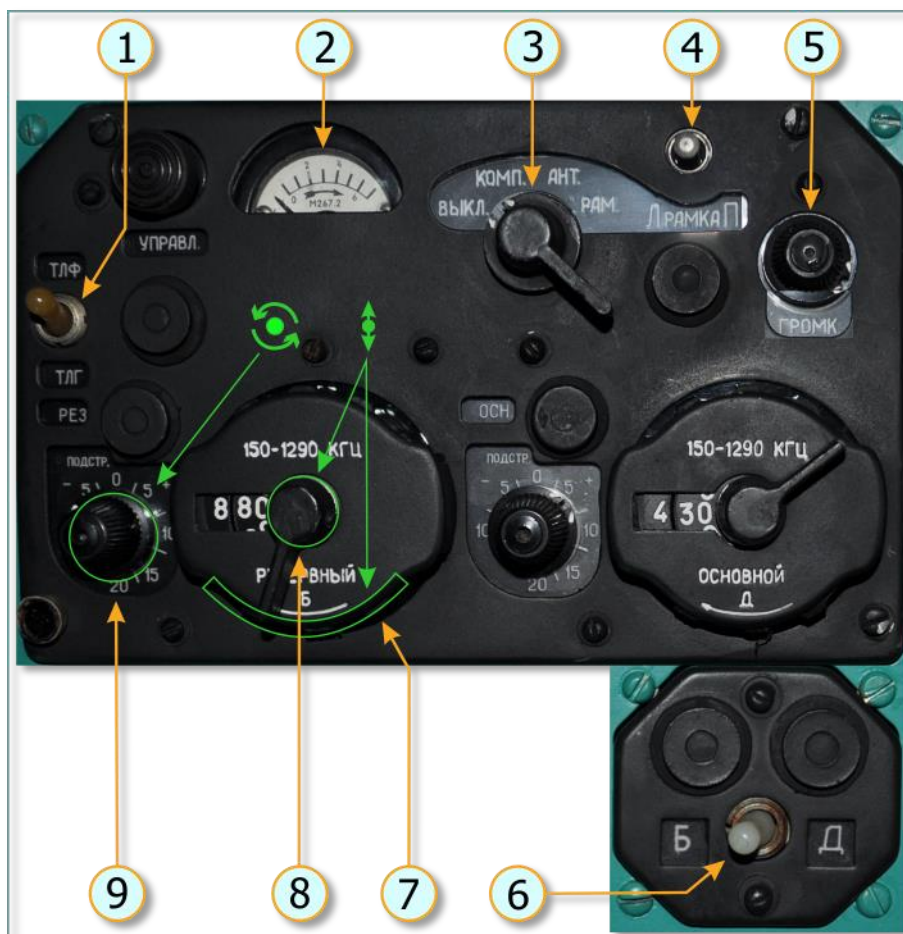

Fig. 6.14. ARK-9 control panel
4. On the ARK-9 control panel (Fig. 6.14):
- mode selector to "АТТ" (ANT) (3);
- "ТЛФ - ТЛГ" (VOICE - CW) switch to "ТЛГ" (CW). A signal should be heard in the headset and disappear when the switch is set to "ТЛФ" (VOICE) (1);
- "ГРОМК." (GAIN) volume control to maximum (5);
- "Б - Д" (B - D CHANNEL) switch to "Б" (B, reserve channel) (6);
- mode selector to "КОМП." (COMP) (3). The No.1 bearing indicator on the UGR-4UK directional gyro should display the bearing to the selected beacon transmitter
- press the "Л-ПАМКА-П" (LOOP) switch (4) to turn the No.1 arrow on the directional gyro 150° - 170° off the beacon bearing. Upon releasing the switch, confirm the No.1 arrow returns to the correct beacon bearing.
5. Set the "Б - Д" (B - D CHANNEL) switch (Fig. 6.14, 6) to "Д" (D, main channel) and tune the main channel following the same process as the reserve channel.
In case radio interference hampers operation of the ADF, use the "Л-ПАМКА-П" (Fig. 6.14, 4) (LOOP) mode to determine bearing to the transmitter based on fading signal volume (Fig. 6.14, 2).